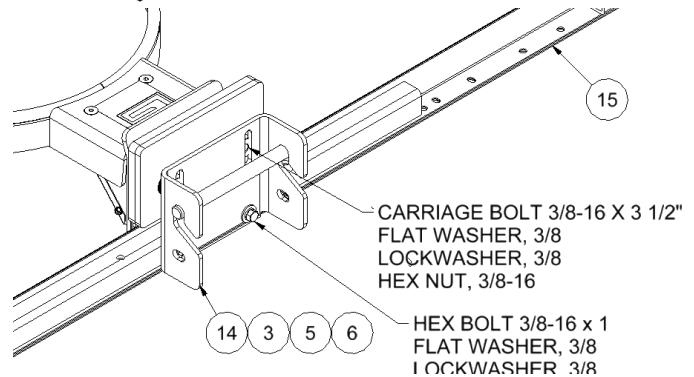

Figure 5
- Using the hardware supplied with the goal, insert the two carriage bolts through the top goal mounting holes on the backboard and loosely install the nuts and washers on the back side of the board as shown in figure 5. Slide the goal over the carriage bolt heads and over the studs on the front of the board. Install the flat washer, lock washer and nuts on the studs and tighten to 9-11 ftlb [12-15 Nm]. Tighten the two top carriage bolts securely to 15-20 ftlb [20-27 Nm].